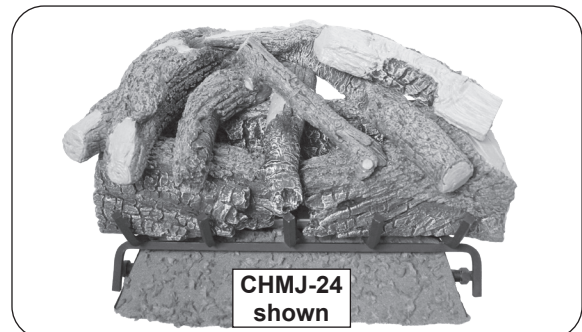

Fig. 2-5 Complete log placement
9. Refer to your log set instructions and Fig. 2-5 to place the remaining logs.